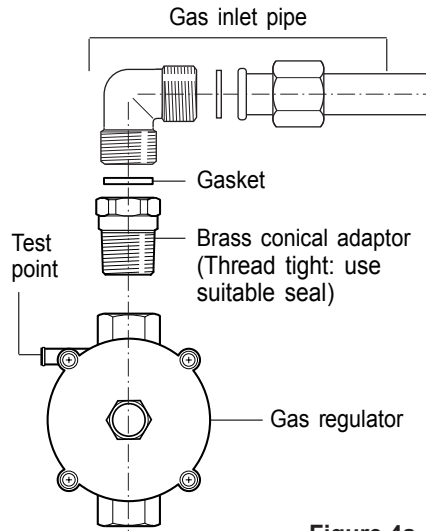

Figure 4a
and replace with test point adaptor (see figs. 4a, 4b).
- If the cooktop is suitable for use with Universal LPG and must be converted for use with Natural gas, before connecting to the gas main remove the appliance test point adaptor and replace with gas regulator (see figs. 4a, 4b).